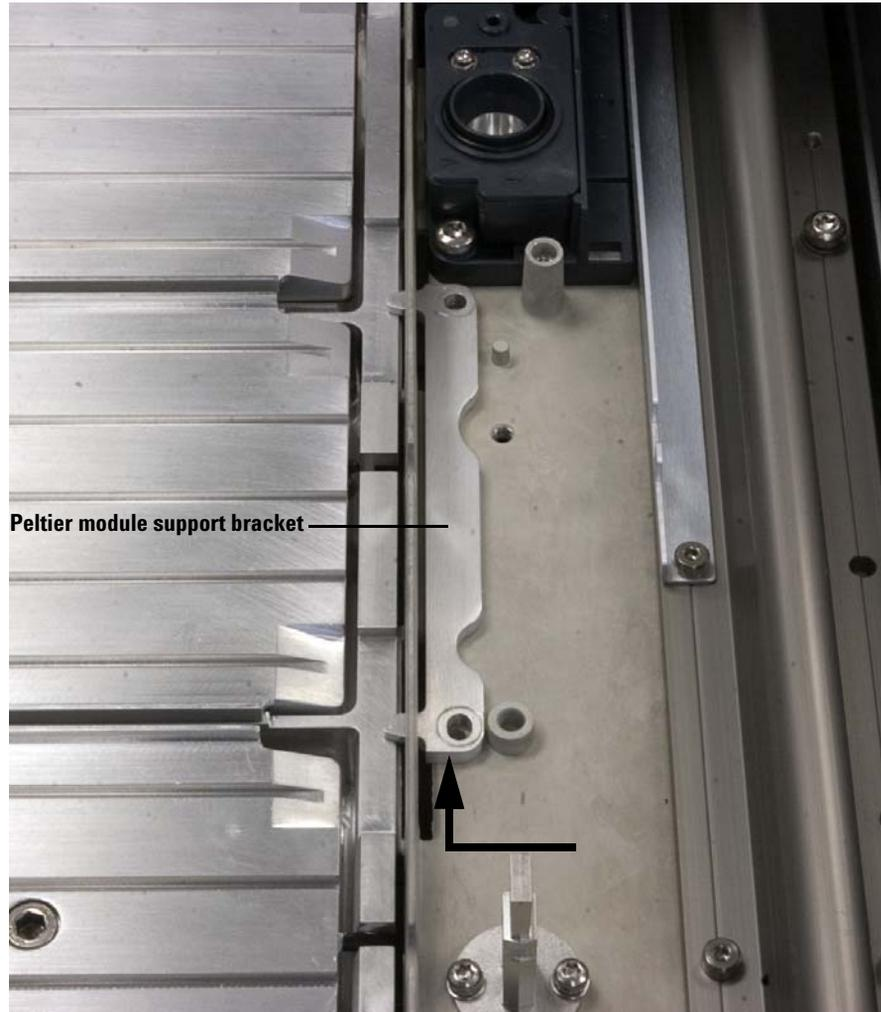

Figure 49 Installing the Peltier module support bracket
- 29 Place the Peltier module support bracket into place and slide it to the left until the screw holes align (Figure 49).